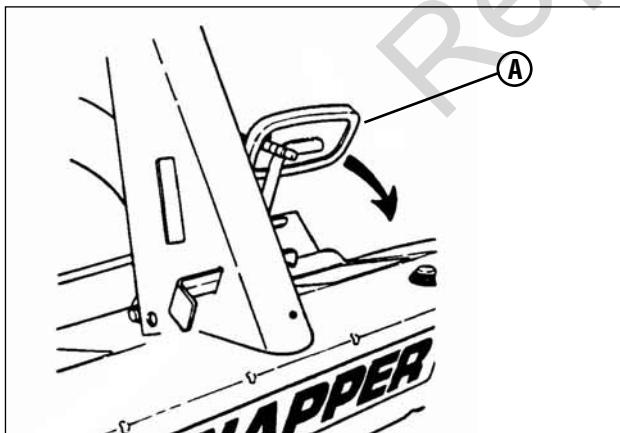

Figure 14: Engaging the clutch/brake pedal
1. Stop motion of the Rear Engine Rider by pushing the clutch/brake pedal (A, **Figure 14**) all the way down to apply the brake.